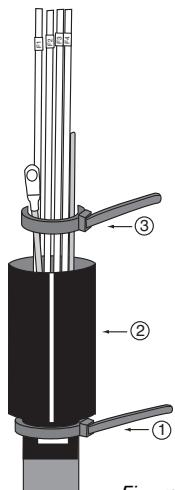

Figure 7
15. Place a tie wrap at the pencil mark on the sheath. Slide the appropriate heat-shrinkable tube over the adhesive rings. Let the tube slide down and rest on the tie wrap. (Figure 7, step 1, 2)
16. Place a tie wrap around all the transportation tubes (and bonding wire if present) above the heat-shrinkable tube. (Figure 7, step 3)